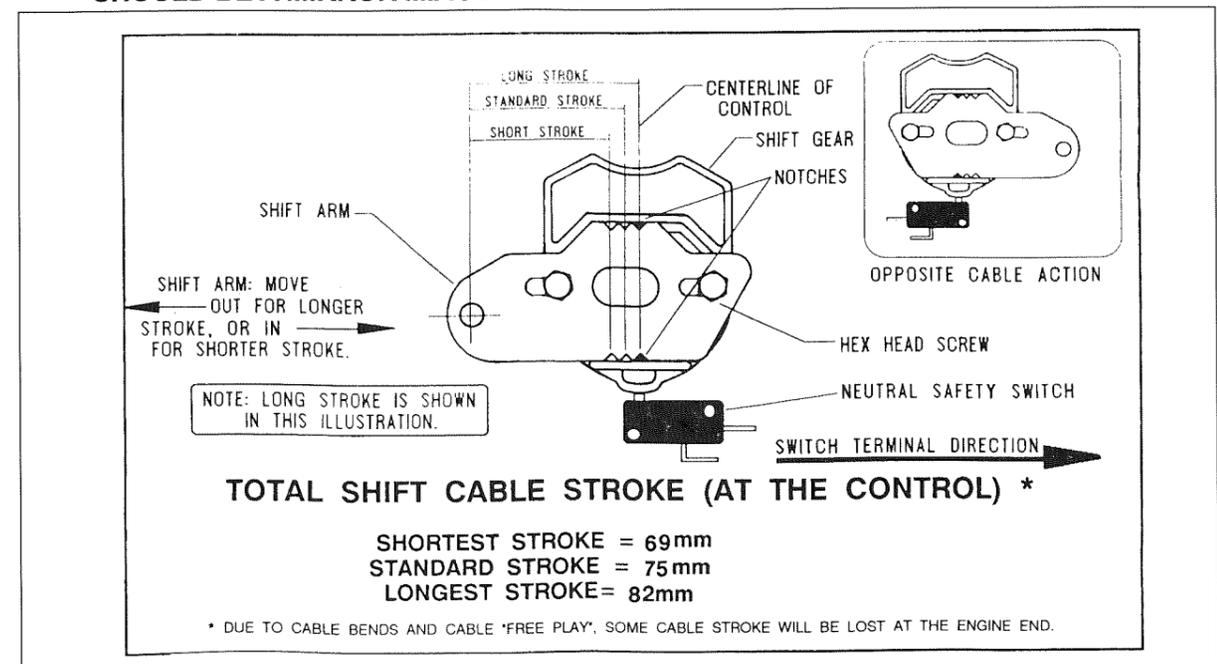

Figure 2
The shift arm is factory-set for standard travel (center notch). Refer to Figure 2.
1. Loosen the two(2) hex head cap screws so the shift arm can be lifted to clear the notches.
2. Reposition the shift arm to the desired stroke. Be sure the notches are properly engaged before tightening the screws. Refer to Figure 2.